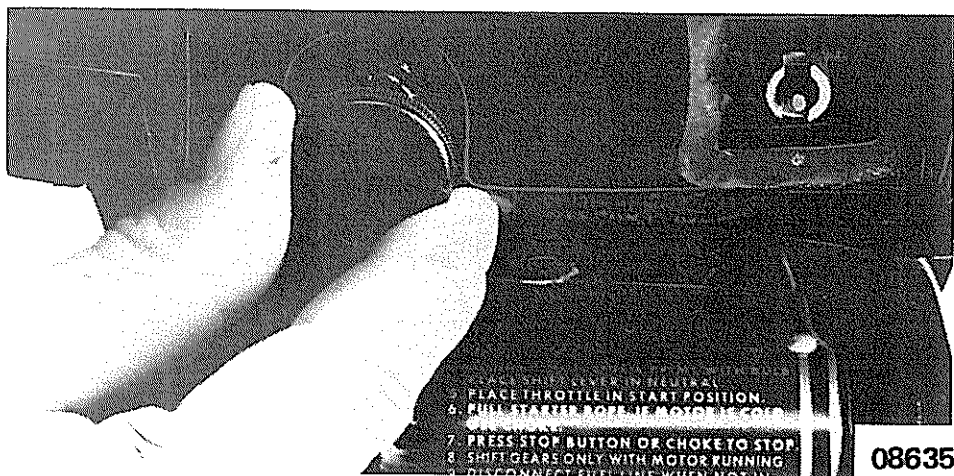

Figure 10. Operating Choke - Merc 200-110-75
10. Place choke in "Off" position and again pull starter handle to start motor. Should a cold motor falter after starting, quickly move choke "On" and "Off" several times until motor runs steady. (Figure 10)